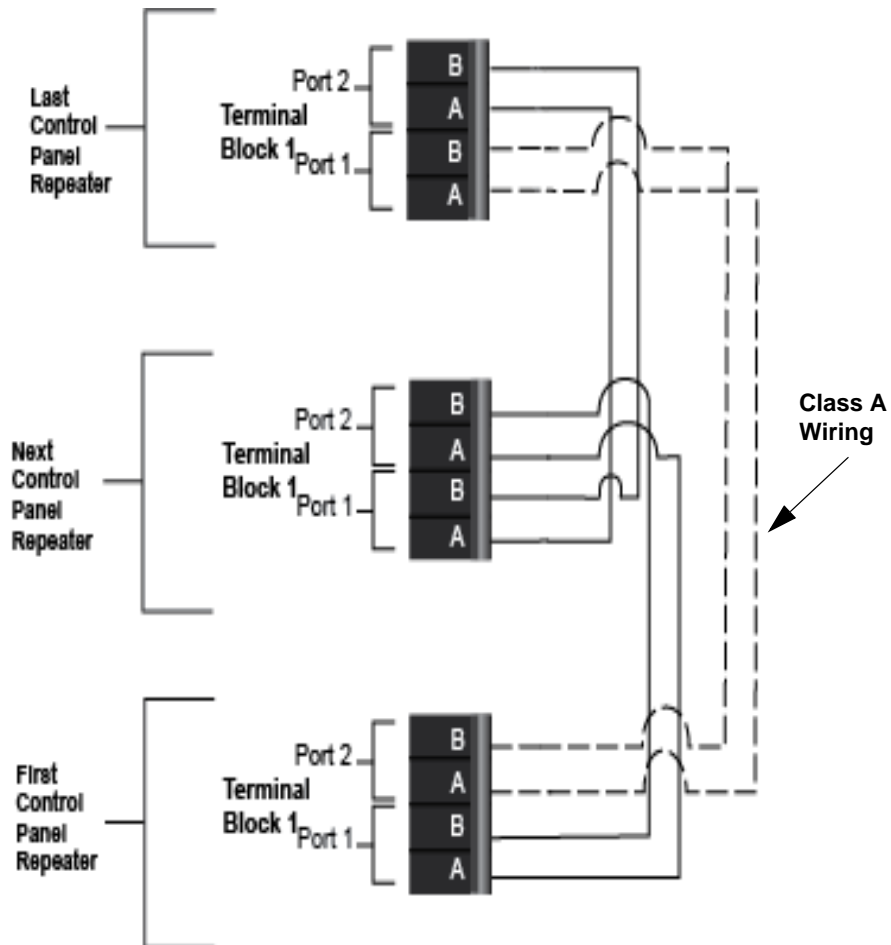
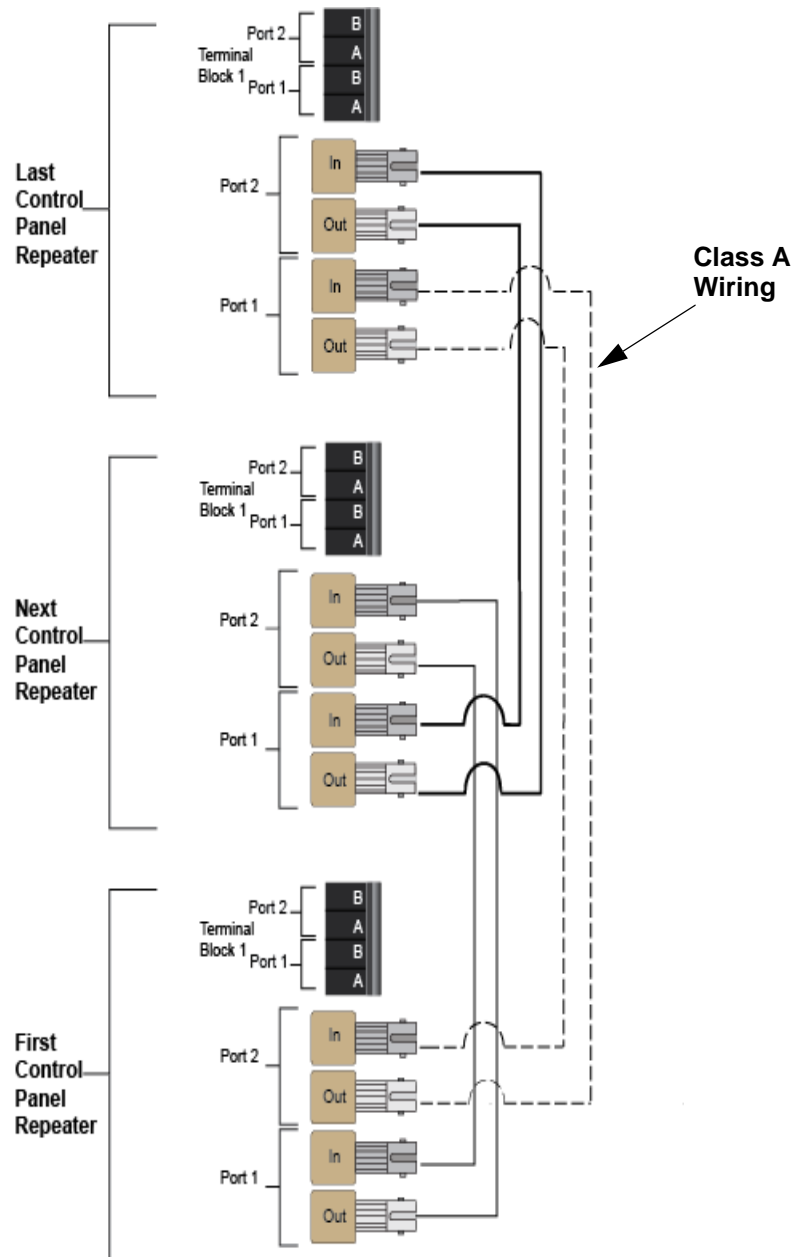
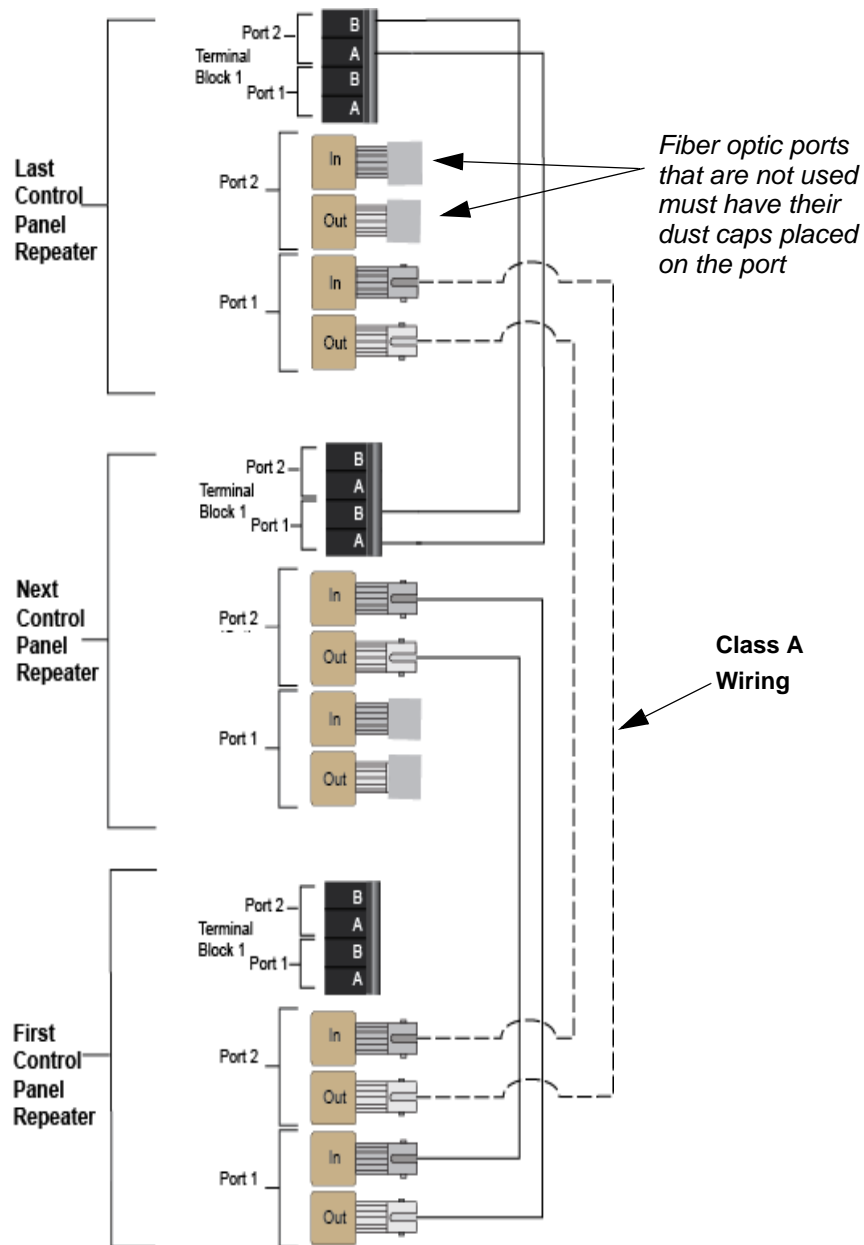
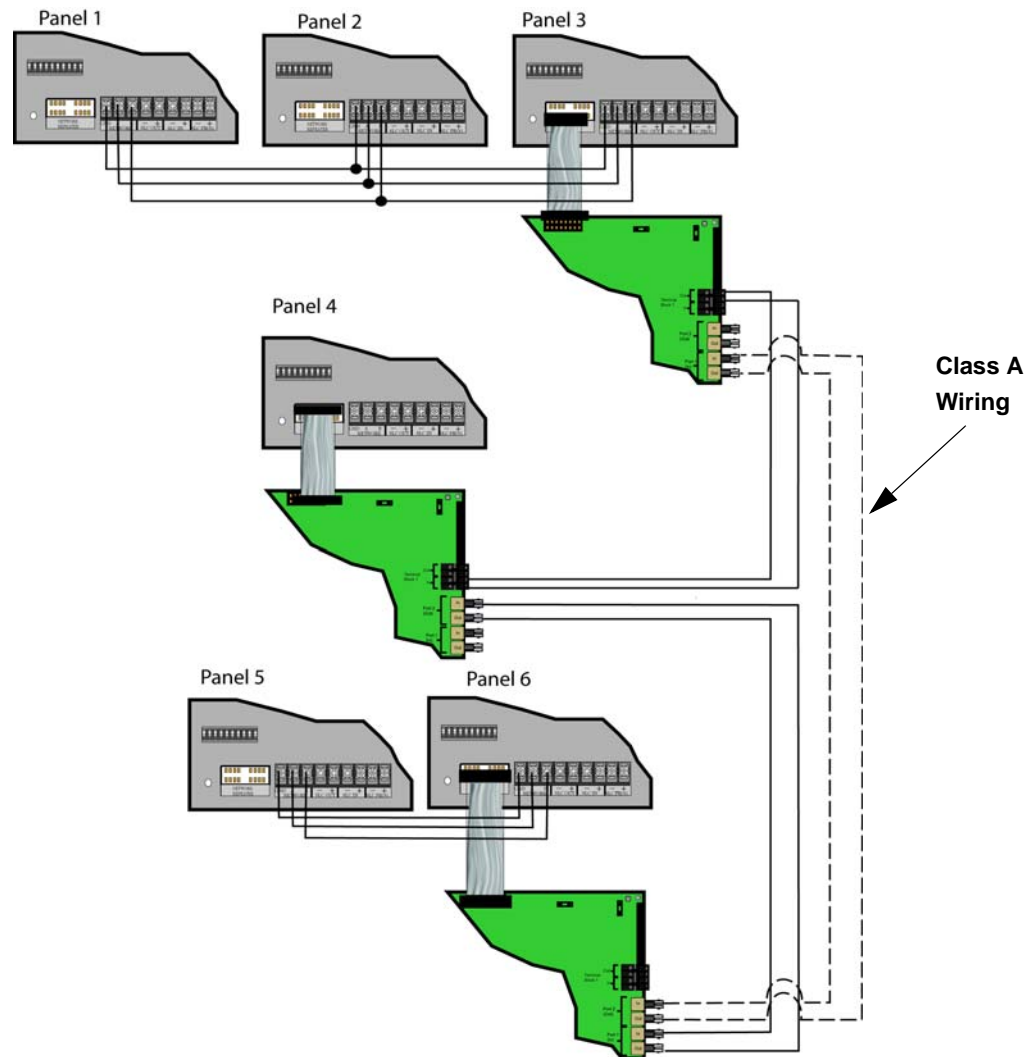

Figure 5-6 Twisted Pair Wiring Configuration
Figure 5-7 Fiber Optic Wiring Example
Figure 5-8 Twisted Pair and Fiber Optic Combination Wiring Example
Figure 5-9 Network Wiring Example Using Both Repeaters and Direct Connect Wiring
- Based on the type of network repeater board chosen, run the twisted pair wiring /fiber optic cable to the next network repeater using a BUS or style 7 (class A) wiring method. A combination of both repeater types can be used. See Figure 5-6, Figure 5-7, Figure 5-8, and Figure 5-9 for repeater wiring examples.
Unshielded twisted pair wiring between multiple panels is shown in Figure 5-6. Class A wiring is shown with a dotted line.
Fiber optic cable between multiple panels is shown in Figure 5-7. Class A is shown with a dotted line.
A mixture of fiber optic cable and twisted pair wiring between multiple panels is shown in Figure 5-8. Class A
Figure 5-9 below shows a network wiring example using both repeaters and direct connect wiring. All repeaters in the system must be placed only on panels that are at the ends of a direct connect BUS or connected to panels with no direct connect network wiring.
The following text details how the panel and repeater terminators must be set for the network example in Figure 5-9.